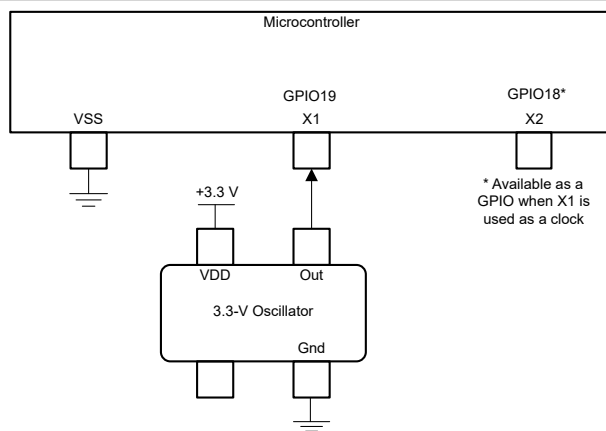

Figure 6-14. Single-ended 3.3-V External Clock
- A single-ended 3.3-V external clock. The clock signal should be connected to X1, as shown in Figure 6-14, with the XTALCR.SE bit set to 1.